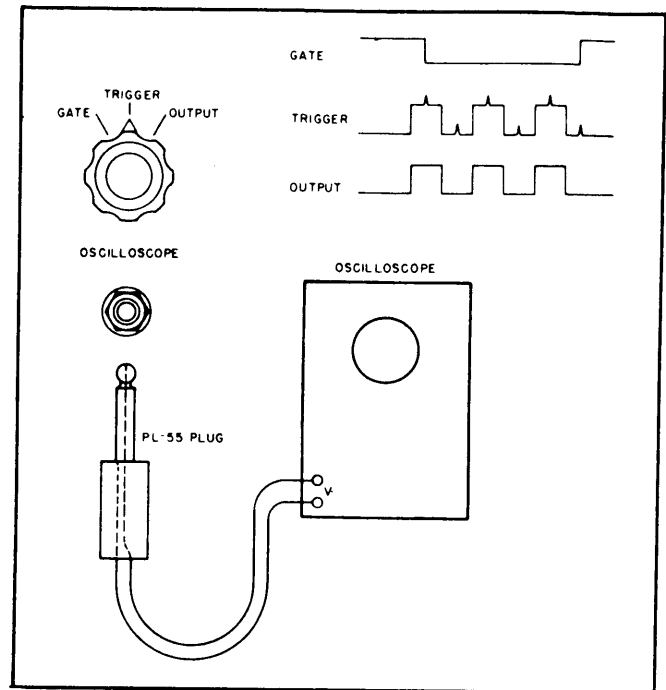

Figure 3-1. Oscilloscope Connections and Patterns
(1) Allow the Regenerator to operate for at least fifteen minutes to warm up and stabilize.
(2) Determine the speed (60, 75 or 100 wpm) of the incoming signal which will operate the Regenerator. Set the front panel SPEED selector switch to the correct position.
(3) Determine the type of teletype signal for which the Regenerator is connected at the input (DC Neutral or Polar, or Tone), and set the three keying switches behind the front panel access door and S7 located on rear of Chassis for operation on the input signal used. The toggle switch with NORMAL and REVERSE designations should always be at NORMAL unless a tone input with inverse keying (tone off during stop mark) is connected to the keyer. The TONE—DC switch is set for either tone or DC inputs. The SIMPLEX NEUTRAL—DIPLEX, POLAR switch, is set to SIMPLEX NEUTRAL for either tone or DC simplex signals and to DIPLEX POLAR for any diplex or DC polar inputs. SWITCH S7 should always be in POSITIVE GROUND POSITION FOR ALL TONE KEYING.
(4) Connect an oscilloscope having a low frequency sweep to the oscilloscope jack behind the access door. An oscilloscope similar to the OS-8/U is suitable. See Figure 3-1 for the oscilloscope connections.
(5) Apply a teletype signal to the Regenerator. The neon lamp should blink when the signal is applied,